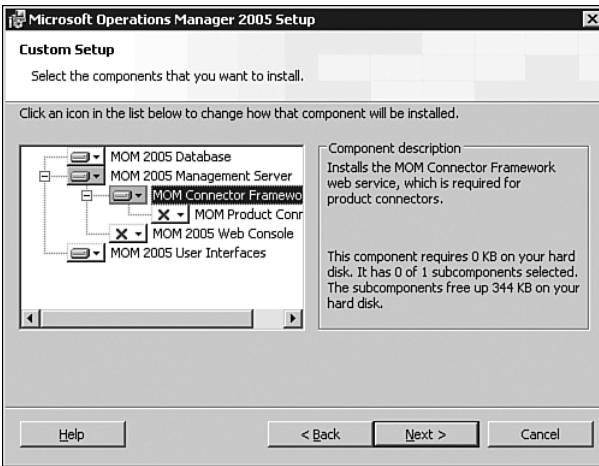

FIGURE 19.2 Selecting the MOM Connector Framework Component for install.
2. The MOM 2005 Custom Setup screen shows the options to add or remove components. Because we are adding the MCF, left-click on the red X next to the MOM Connector Framework component. Figure 19.2 displays the MCF component selected for installation.